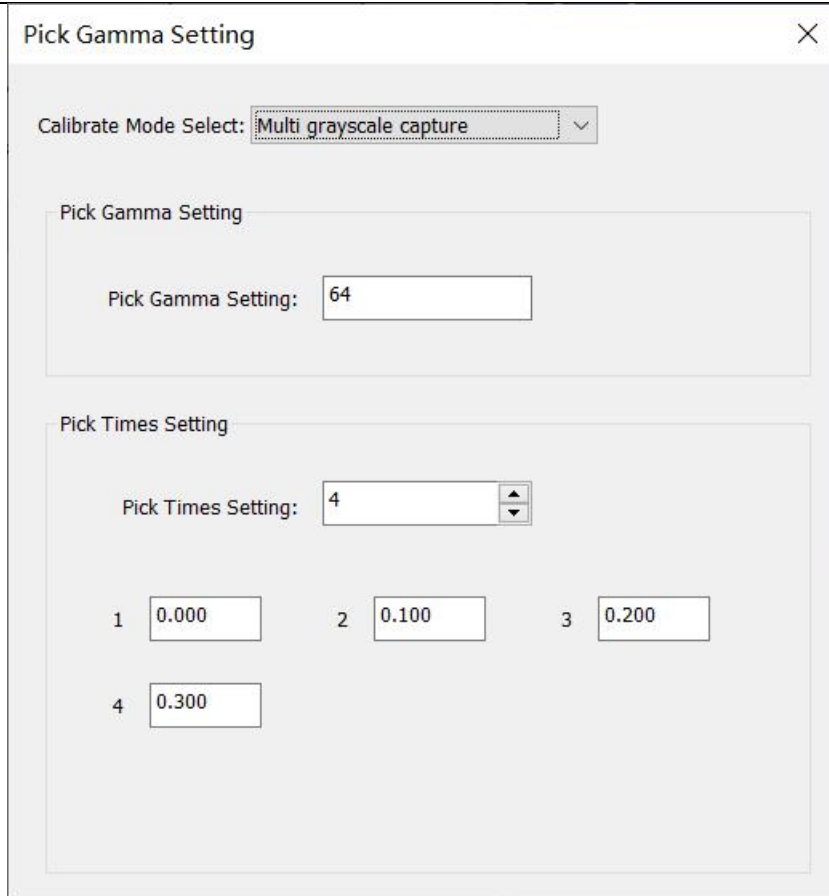

Fig.4-4 Multi grayscale capture
2. After analysis completed (Fig.4-4 ,when three colors present \surd , it means that all the analysis are completed), the correct coefficient will be auto sent to receiver card (By default, the coefficient will be sent to receiver card automatically. Or, you may uncheck [**Auto Save Calibration Coef**] to disabled the function.).